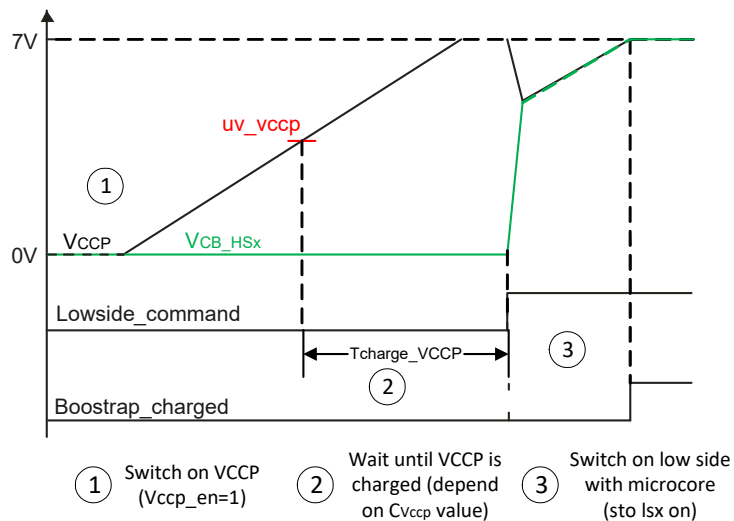

Figure 22. Power-up: V_{CCP} and bootstrap capacitors - after V_{CCP} fully charged
1. Wait for some specific time after V_{CCP} regulator is activated to ensure the V_{CCP} output voltage has reached it's nominal value of about 7.0 V. This is only possible if the V_{BATT} voltage is at a nominal value. Switch on the LS MOSFET(s) to charge the bootstrap capacitors. If the V_{CCP} voltage was high enough and the bootstrap capacitors are small compared to the V_{CCP} output buffer capacitor, this leads to a transfer of charge without crossing the V_{CCP_UV} threshold again. Figure 22 shows this strategy.